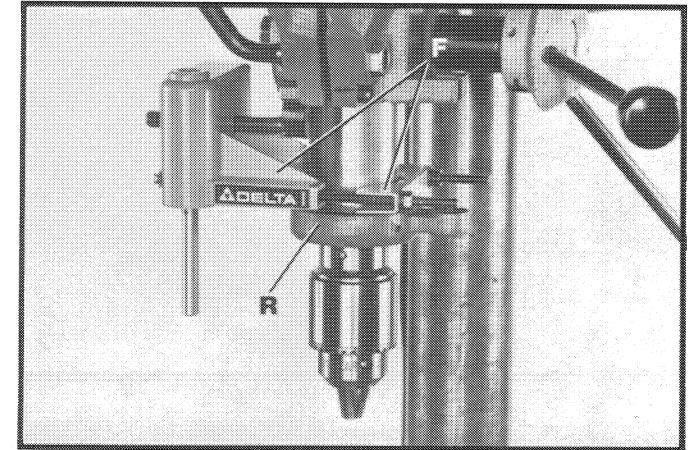

Fig. 10
9. Assemble the gear box and mounting bracket (F) Fig. 10, to bottom of spindle directly above bracket (R) as shown.